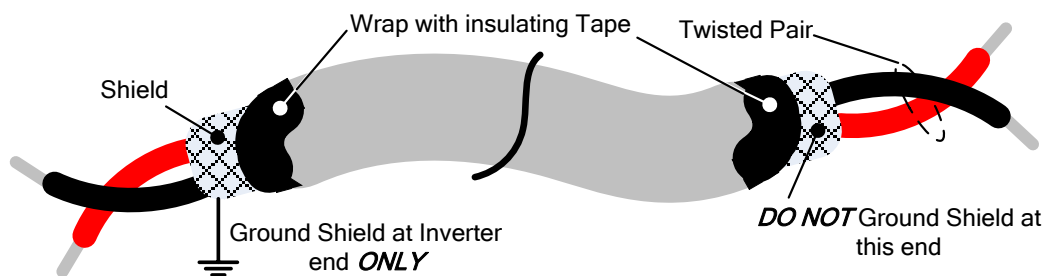

Fig. 3.17.1 Shielded Twisted-Pair
- (1) Separate the wiring for control circuit terminals from main circuit wiring for terminals (R/L1, S/L2, T/L3, U/T1, V/T2, W/T3).
- (2) Separate the wiring for control circuit terminals R1A-R1B-R1C (or R2A, R2C) (Relay outputs) from wiring for terminals ① - ⑧, A01, A02, GND, DO1, DO2, DOG, +10V, (-1-V), AI1, AI2 and GND wiring.
- (3) Use shielded twisted-pair cables (#24 - #14 AWG / 0.5 -2 mm²) shown in Fig. 3.17.1 for control circuits to minimize noise problems. The maximum wiring distance should not exceed 50m (165 ft).